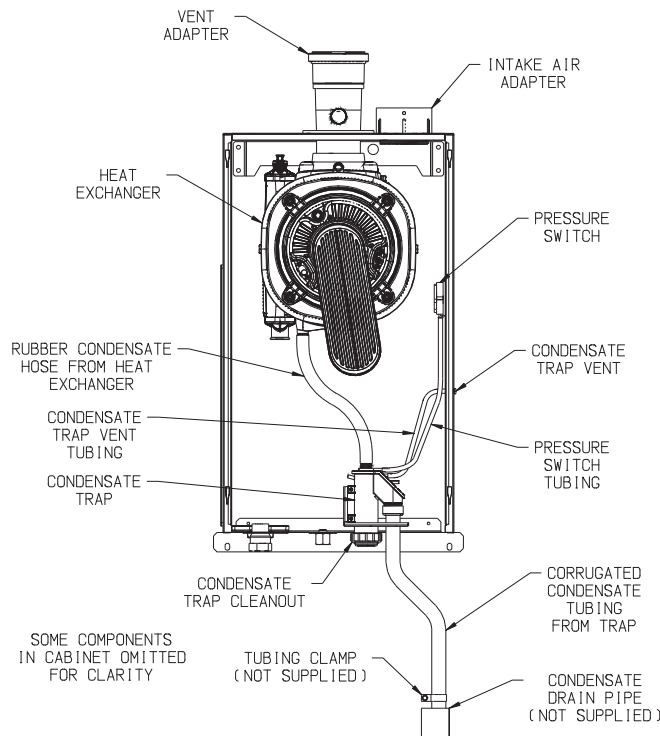

FIGURE 7.35: CONDENSATE PIPING ARRANGEMENT
All condensate which forms in the boiler or vent system passes through the heat exchanger and out of a bottom drain port which is connected to the condensate trap with a hose. This trap allows condensate to drain from the heat exchanger while retaining flue gases in the boiler. This trap is an integral part of the boiler but must be connected to a drain pipe as shown in Figure 7.35. A length of corrugated tubing is supplied with the boiler and is connected to the trap as shown in Figure 7.35. Note the following when disposing of the condensate:
1. If the corrugated condensate drain line must be extended, construct the extension from PVC or CPVC pipe. Insert the hose provided with the boiler into the end of the extension as shown in Figure 7.35.
6. Do not attempt to move the trap from the location shown in Figure 7.35. Do not attempt to substitute another trap for the one provided with the boiler.
7. The vent shown in Figure 7.35 must be left open for the trap to work properly.